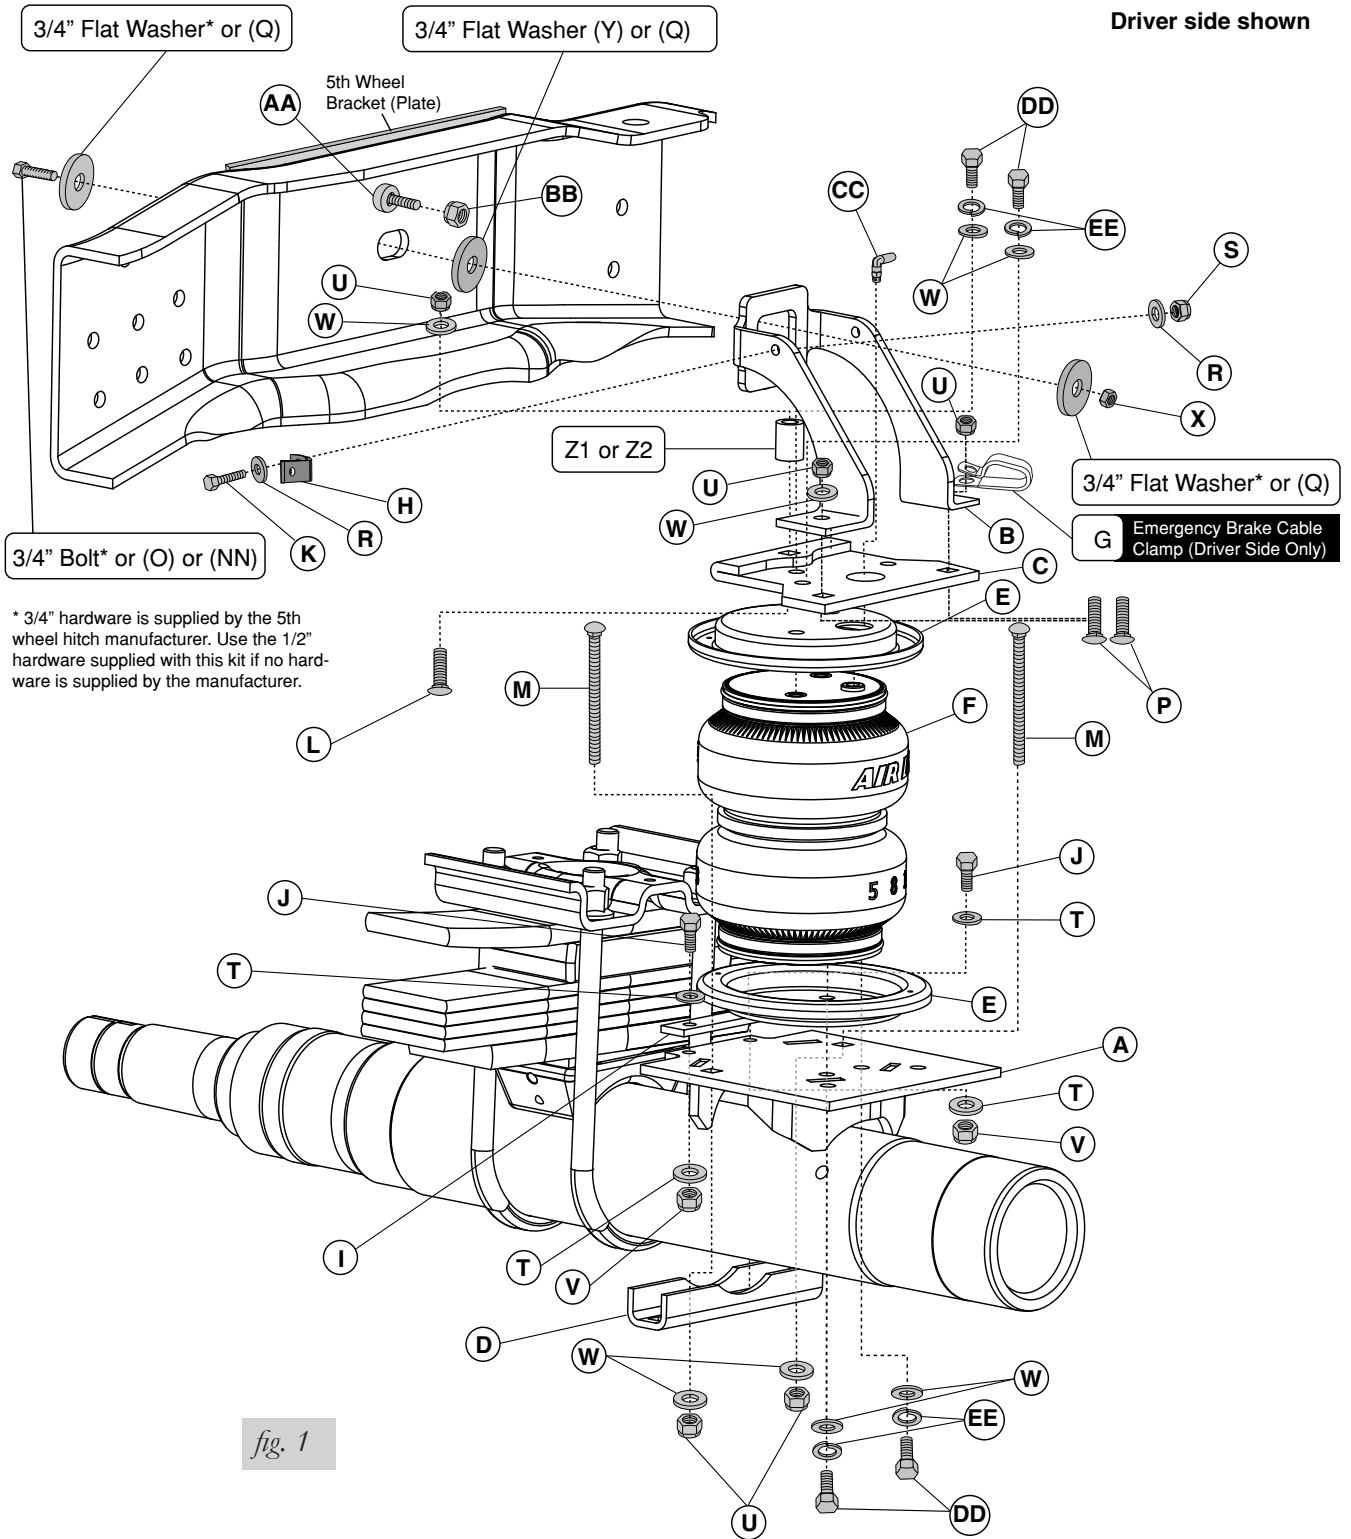

fig. 1
4. If you have a fifth wheel hitch already installed, it will be necessary to remove the $\frac{3}{4}$ " hardware that bolts the side bracket to the outside of the frame above the axle (fig. 1).
5. In order to obtain clearance between the upper bracket and the emergency brake cable bolt, on the inside of the frame, it will be necessary to remove the bolt and re-insert through the emergency brake cable bracket, from the outside of the frame in. Install the $\frac{7}{16}$ " spacer (AA) on the bolt and cap with the new M10-1.5 nyloc nut (BB) (fig. 1). Tighten hardware securely.
- Attach the L-bracket (H) to the back or front leg of the frame brace using the $\frac{1}{4}$ -20 x 1 hex head bolt (K), flat washers (R) and $\frac{1}{4}$ -20 nyloc nut (S) supplied (fig. 1). This L-bracket will eventually be used to attach the previously removed emissions line. Do not attach the line holder to it at this time.
If you have an aftermarket fifth wheel hitch that has a bracket (plate) running along side of the frame and it used this slot to secure the bracket to the frame with existing hardware, install the existing hardware previously removed in the "getting started section" from the fifth wheel installation for securing the brace (fig. 4). Make sure to install the large 3/4" flat washer (Y) between the brace and frame (figs. 1 and 4). Do not tighten at this time.
1. Set a roll plate (E) over the top and bottom of the bellows (F) (fig. 1).